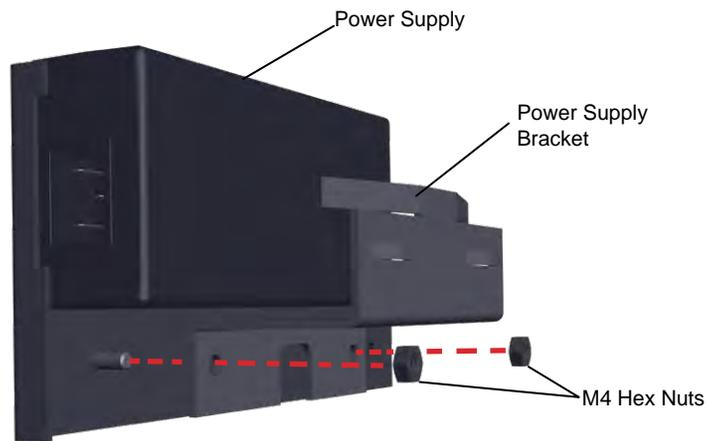

Figure 33. Remove bracket and power supply from long rack ear
2. Disconnect the power supply supporting bracket from the longer (R) rack mount bracket. Reserve the hex nuts for reattachment to the wall bracket (Figure 33).